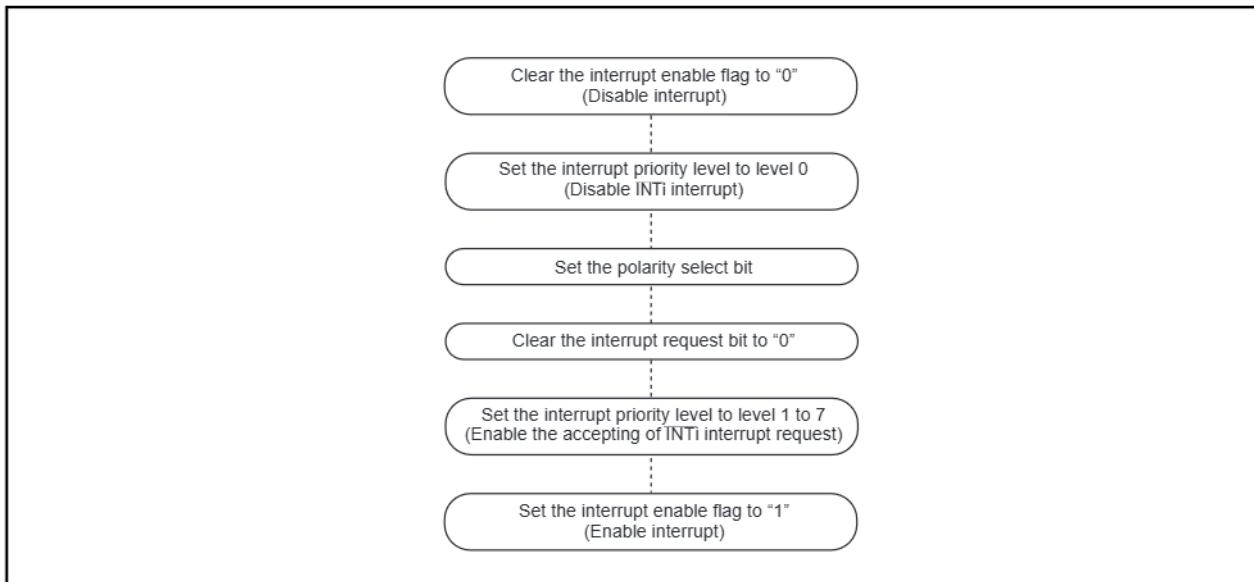

Figure 1.14.13. Switching condition of INT interrupt request
(3) The NMI interrupt
(4) External interrupt
- When the polarity of the INT0 to INT5 pins is changed, the interrupt request bit is sometimes set to "1". After changing the polarity, set the interrupt request bit to "0". Figure 1.14.13 shows the procedure for changing the INT interrupt generate factor.